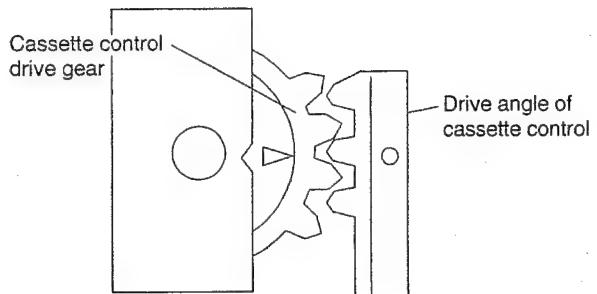

Figure 4-2.
1. Before installation of the cassette housing control assembly, make a connection between TP5001 and TP5002 , both located at the center on your side on the main PWB, with a 22 ohm resistor. Plug in the power cord. The cassette control drive gear starts and stops just when a tally mark appears in the mechanism chassis window. Align this tally mark with the cassette control drive angle's mark, as shown in Fig. 4-2, to position the cassette control on the mechanism chassis.